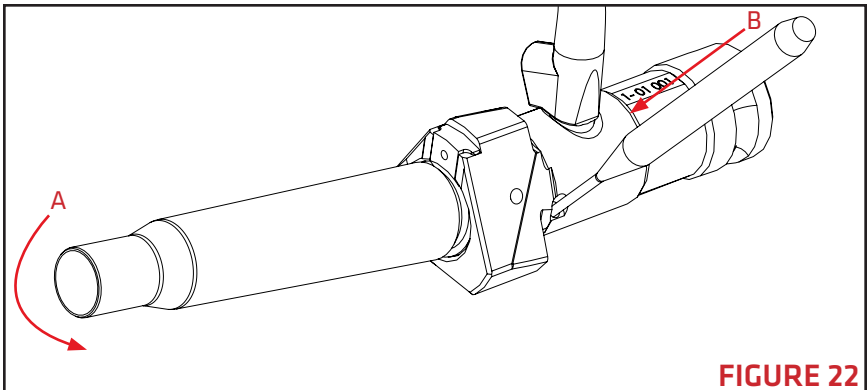

FIGURE 22
4. Hook the rim of a cartridge casing under the extractor. Pivot the casing to force the ejector flush with the bolt face (**FIGURE 22-A**) and insert a 3/32 inch (2.5mm) punch into the ejector pin hole (**FIGURE 22-B**).